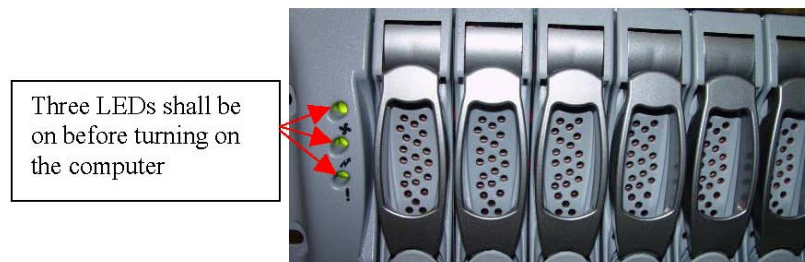

Figure 3
2. Turn on the SATABoy and wait until three LEDs come on. (See Figure 3)